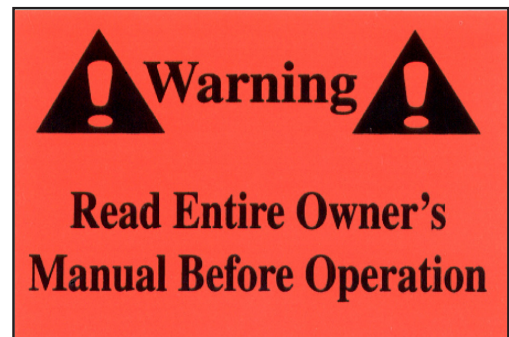

Figure 4: Owner's Manual Decal (DE39)
- Be aware of the owner's manual decal (Figure 4).